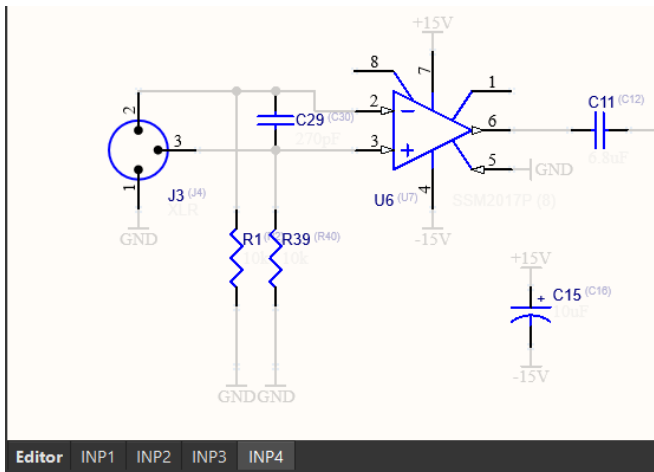

Figure 8. Back-annotate schematics synchronized with the PCB
24. Open the `Input Channel.SchDoc` file and examine designators in all the tabs. Note the superscript numbers. The displayed value in the compiled tab corresponds to the value on the PCB, and the superscript value is the value in the Editor tab, as can be seen in Figure 8.